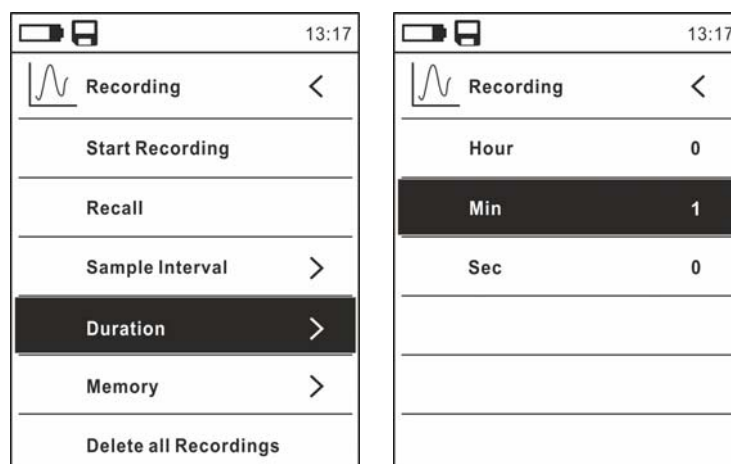

Fig. 32: Data logger function – Setting of recording duration
8. Select item "Duration" (see Fig. 32 – left side) and press key **▶**. The screen in Fig. 32 – right side appears on the display.